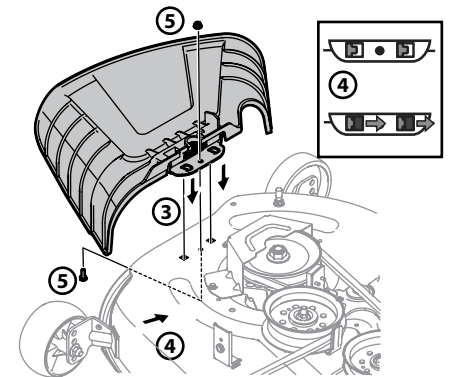

Figure 2-11
- Place the chute deflector on the deck, be sure to insert the tabs on the chute deflector into the holes on the deck. See Figure 2-11.
- When the tabs are installed in the deck, slide the chute deflector toward the rear of the tractor until the bolt hole in the chute deflector aligns with the hole in the deck. See Figure 2-11.
- Secure the chute deflector in place with the flange lock nut and hex screw removed in step 2. Tighten to 102-124 in-lbs. See Figure 2-11.